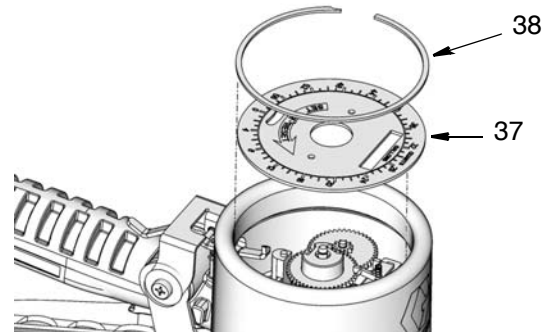

FIG. 33
3. Install face plate panel (37) and large retaining clip (38) (FIG. 33).